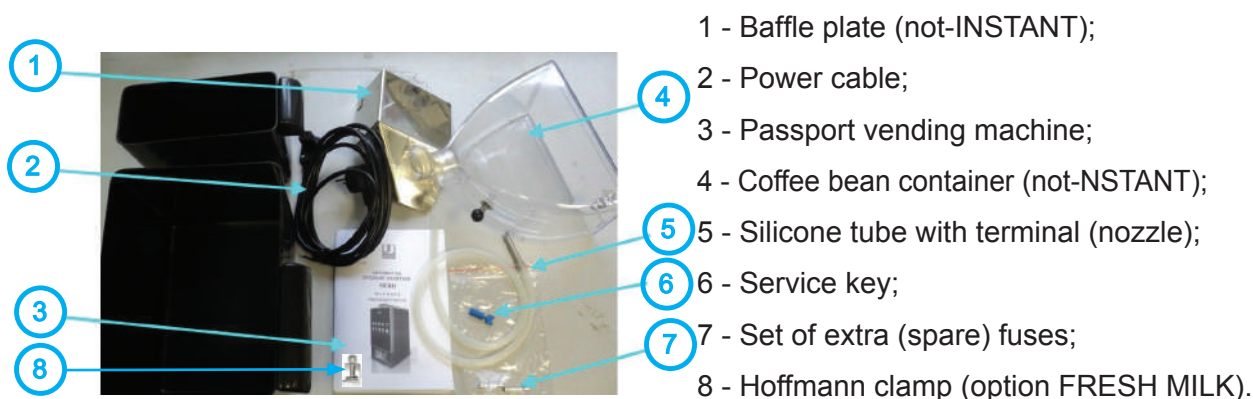

Fig.4.2
2. remove the vending machine components, included in the scope of supply, from the waste containers, located in the lower part of the vending machine, (see fig. 4.2).
The components and parts, included in the machine's package are packed in the waste containers, inside the machine (see fig.4.2).